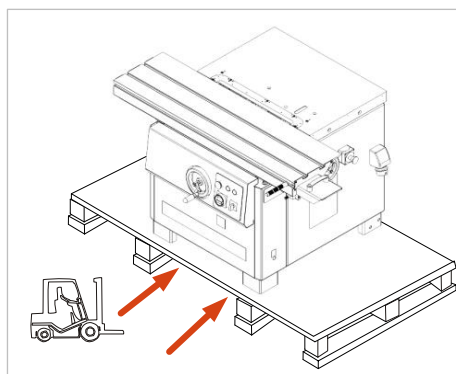

Figure 9: Unloading with a forklift truck
- Move the forks of the forklift truck centrally between the pallet timbers. Then feed the forks of the forklift truck as shown in ⇒ Figure 9.